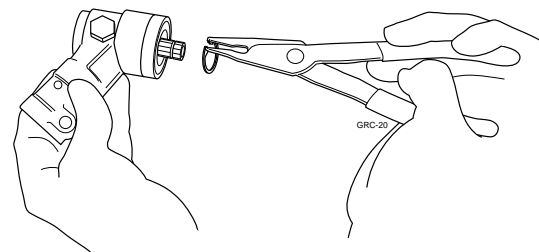

Figure 11.3 Removing the snap ring from the output side of the gearcase.
STEP 3. Use snap ring pliers such as Snap-On® PR-23A or equivalent to remove the snap ring from the output (cutting attachment) end of the gearcase (Figure 11.3).